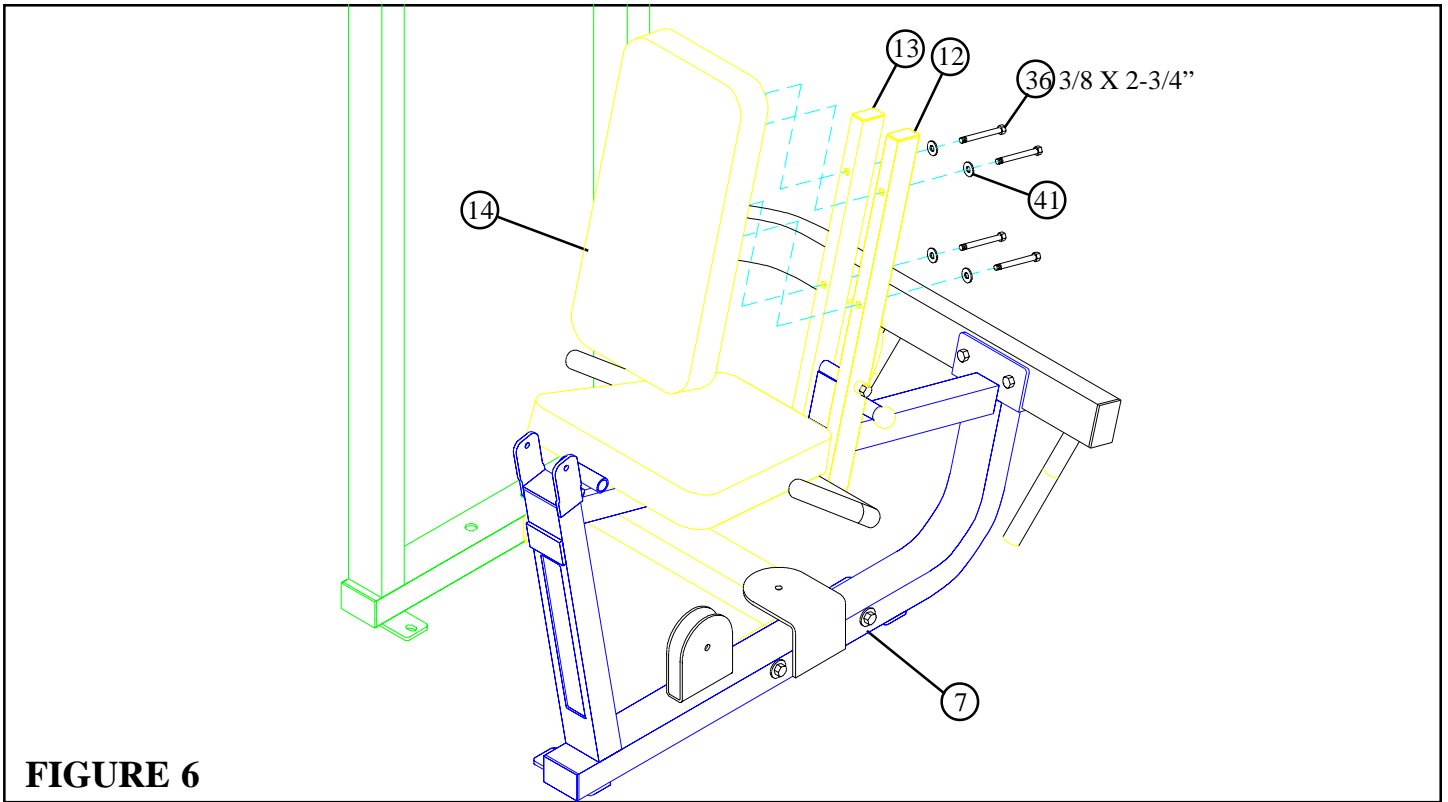

**FIGURE 5**
- Assemble RIGHT (12) & LEFT (13) PAD SUPPORTS to the BENCH FRAME (7) using one 1/2 X 6" BOLT (32), two 1/2" FLANGE BEARINGS (50), and one 1/2" LOCK NUT (43) as shown in FIGURE 5. **(NOTE: Securely tighten, then back nut off 1/4 turn to allow the two parts to rotate freely.)**